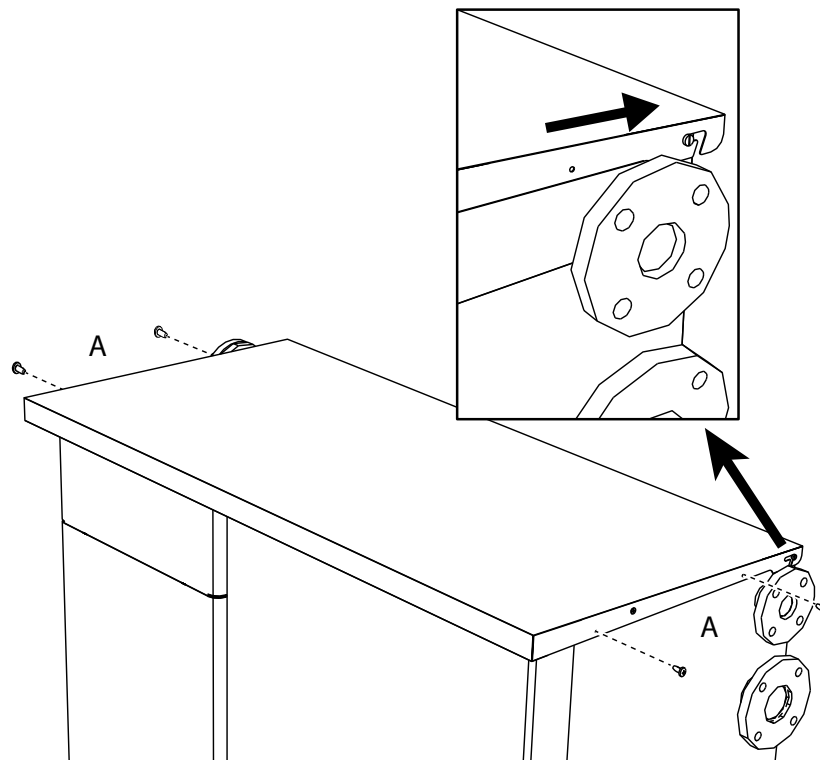

fig. 88- Cover opening
2. Slide the cover towards the back so as to hook the pin as shown in the box in fig. 88.